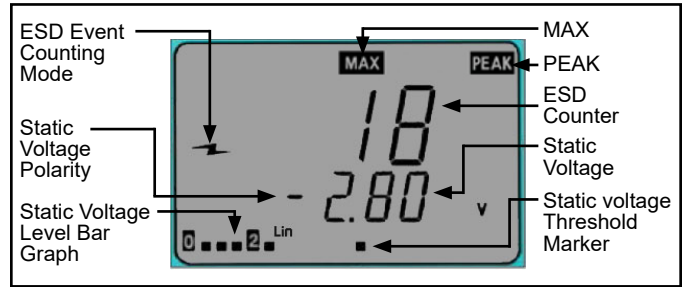

Figure 8. Static Voltage Field channel
1. Toggle the joystick until the Static Voltage channel is displayed (Figure 8).